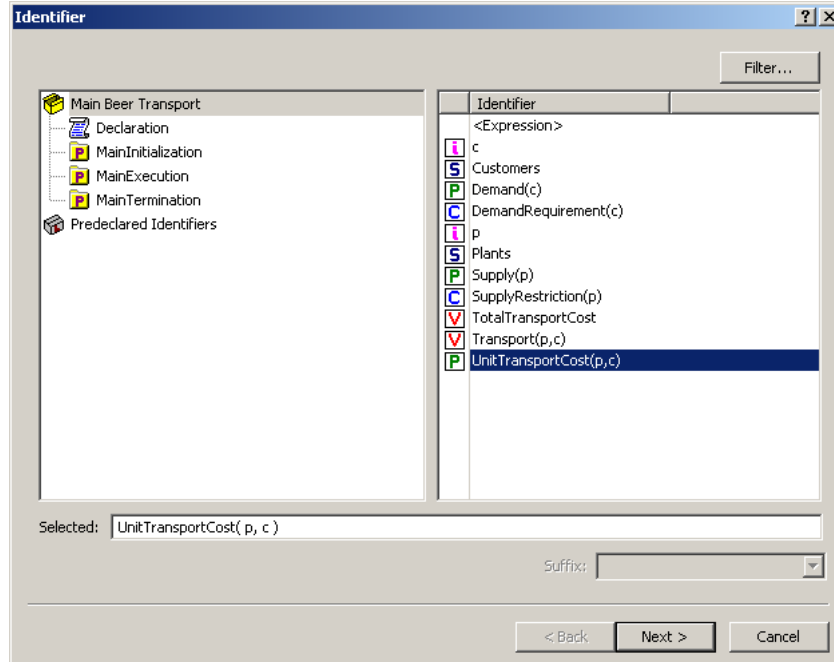

Figure 6.2: Identifier selection wizard
- ▶ select the parameter 'UnitTransportCost(p,c)' in the identifier selection wizard as illustrated in Figure 6.2,